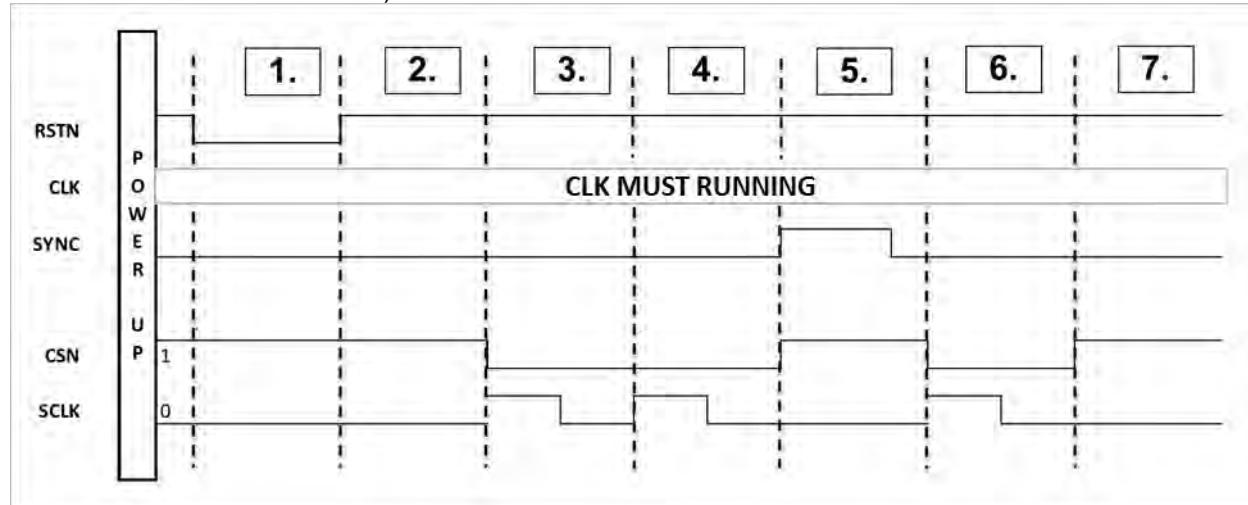

Figure 12: Start-up sequence when using the SPI interface
Figure 12 presents the reset and synchronization to realize after power-up when the SPI is used (see §7 for more information on the SPI interface).
- **5.** A pulse is applied onto the SYNCTRIG input to reset the internal clocks (SYNC signal in Figure 12). At this stage, the Trigger mode is disabled.